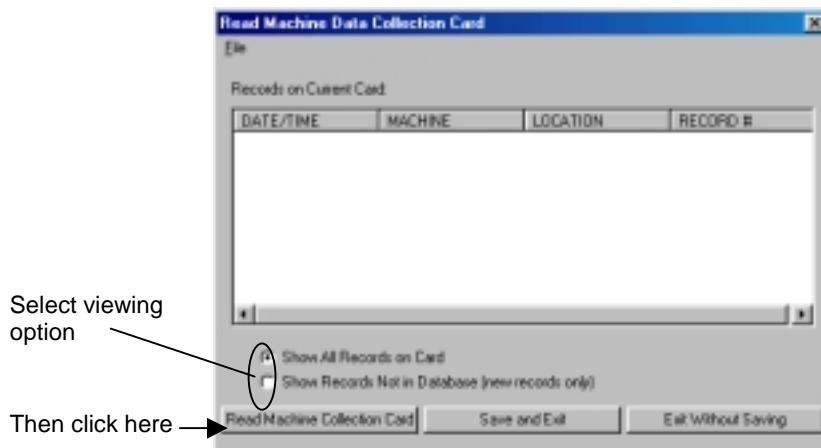

Figure 8.35 Reading the Data Collection Card
3. Select an option to show all the data collections on the card or only data that has not been saved to the database then click the Read Machine Collection Card button (Figure 8.35).